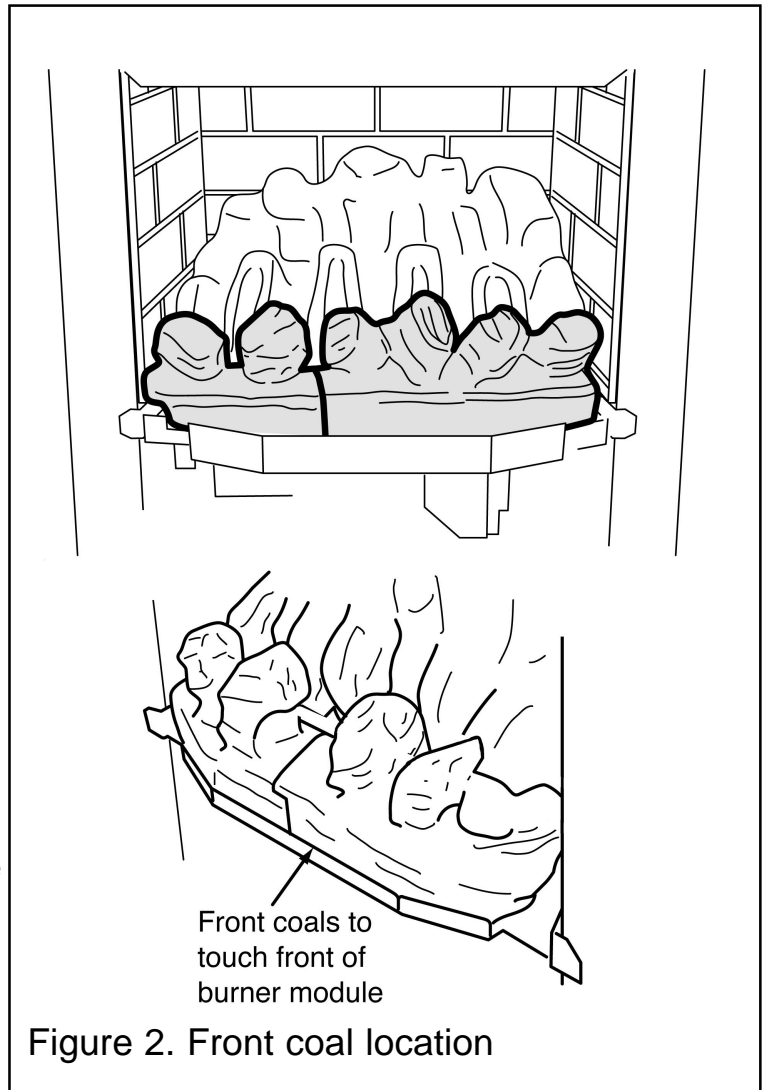

Figure 2. Front coal location
**2.** Place the left-hand ceramic front coal in position in front of the base coal. The front of the ceramic coal should touch the front of the burner module (See figure 2).
**3.** Place the right hand ceramic front coal in position in front of the base coal. This should overlap the left-hand coal. Push the two sides together to minimise the gap. The front of the ceramic coal should touch the front of the burner module (See figure 2).
**4.** It is important that the front ceramics are positioned correctly and do not cover the burner ports in any way (See figure 2).